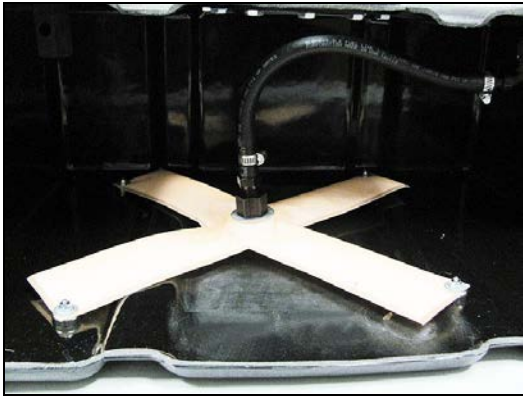

Figure 6
5. Remove tape from the hole edge and then clamp the 3/8" rubber hose to the right angle adapter and install on the bulkhead feed thru. **Be careful not to allow any portion of the HydraMat or suction hose to bind the motion of the fuel level sender float if one is used.** (Figures 6 & 7)